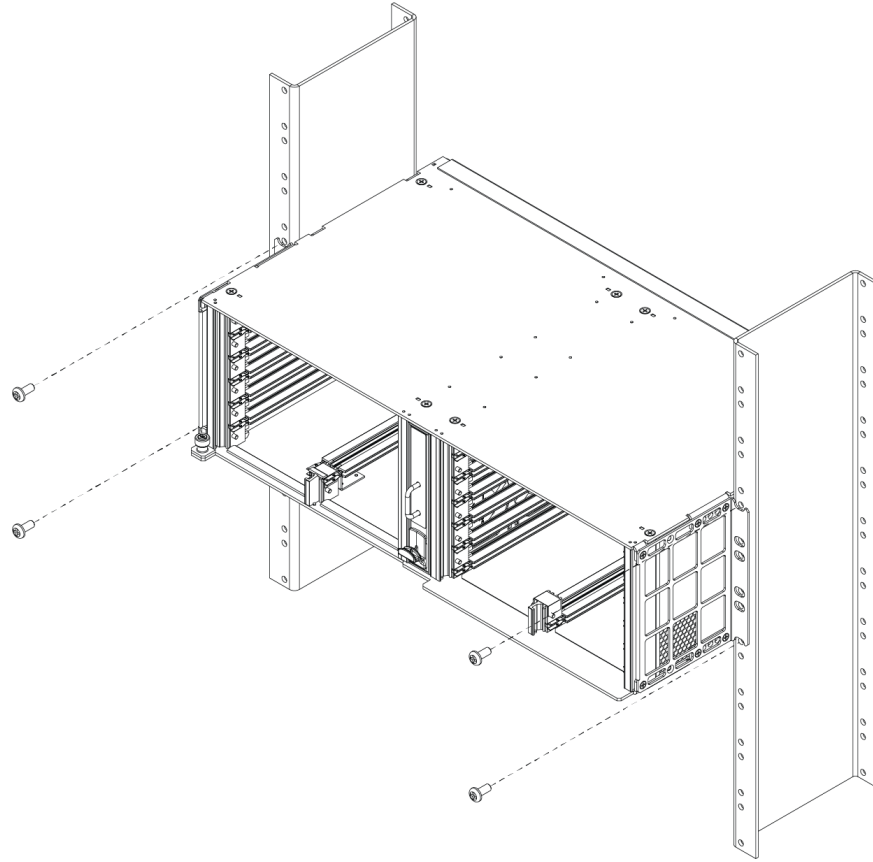

Figure 3. Mounting the Allied Telesis 9810 Chassis into a Vertical Rack Mount
4. Install the remaining mounting bolts. Use a minimum of three bolts for each side, with the other two bolts used being one of the middle mounting groups and one at the top. Refer to Figure 3.